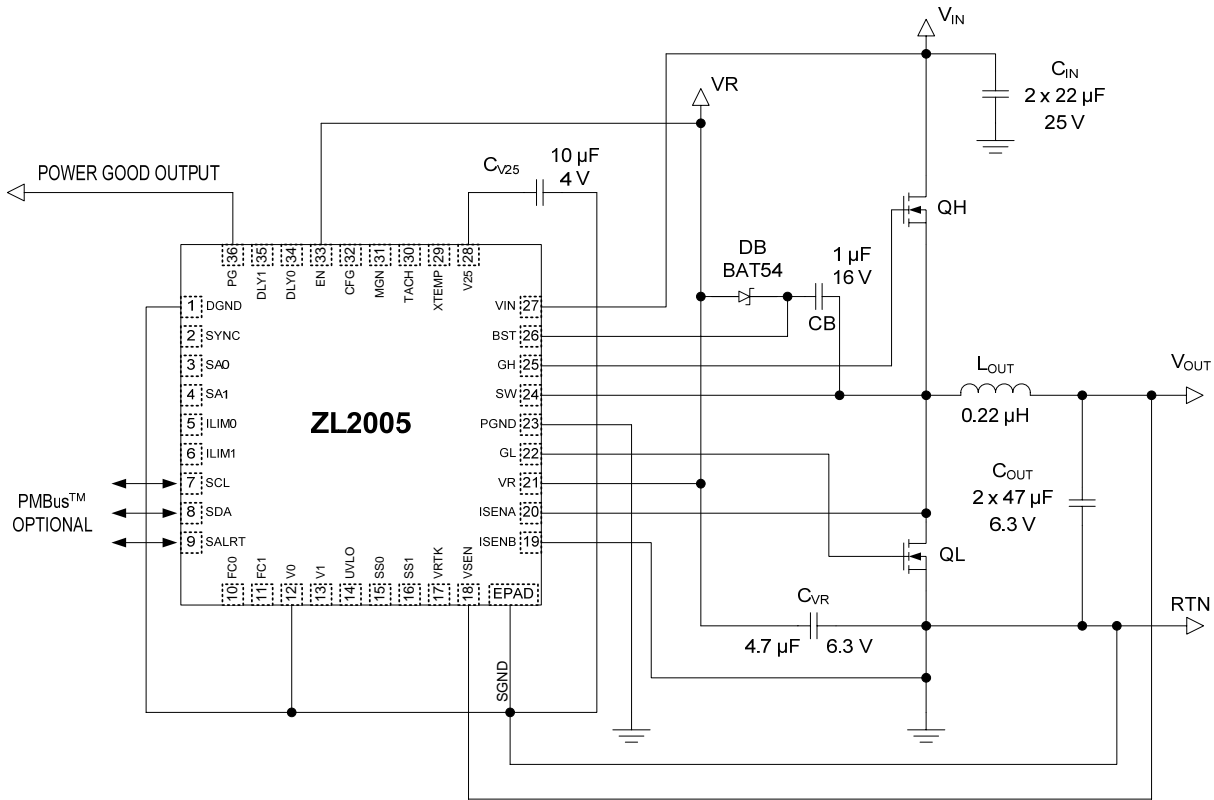

Figure 1. Typical Application Circuit
Zilker Labs’ power management and conversion ICs are synchronous voltage-mode buck converters based on the patented Digital-DC™ technology. The buck converter is used to convert a higher, often loosely regulated voltage to a lower, tightly regulated voltage. The buck converter uses a MOSFET in the “freewheeling” or bottom switch location to increase efficiency. The operation of a buck converter is illustrated in Figure 1.
The buck converter shown in Figure 1 is a well- known switching power supply topology. It operates by turning on and off the control MOSFET (QH) at a high frequency. The amount of time the QH is on as a fraction of the total switching period is known as the duty cycle *D*, which is described by the following equation where *T_{on}* is time on and *T_{sw}* is the switching period.